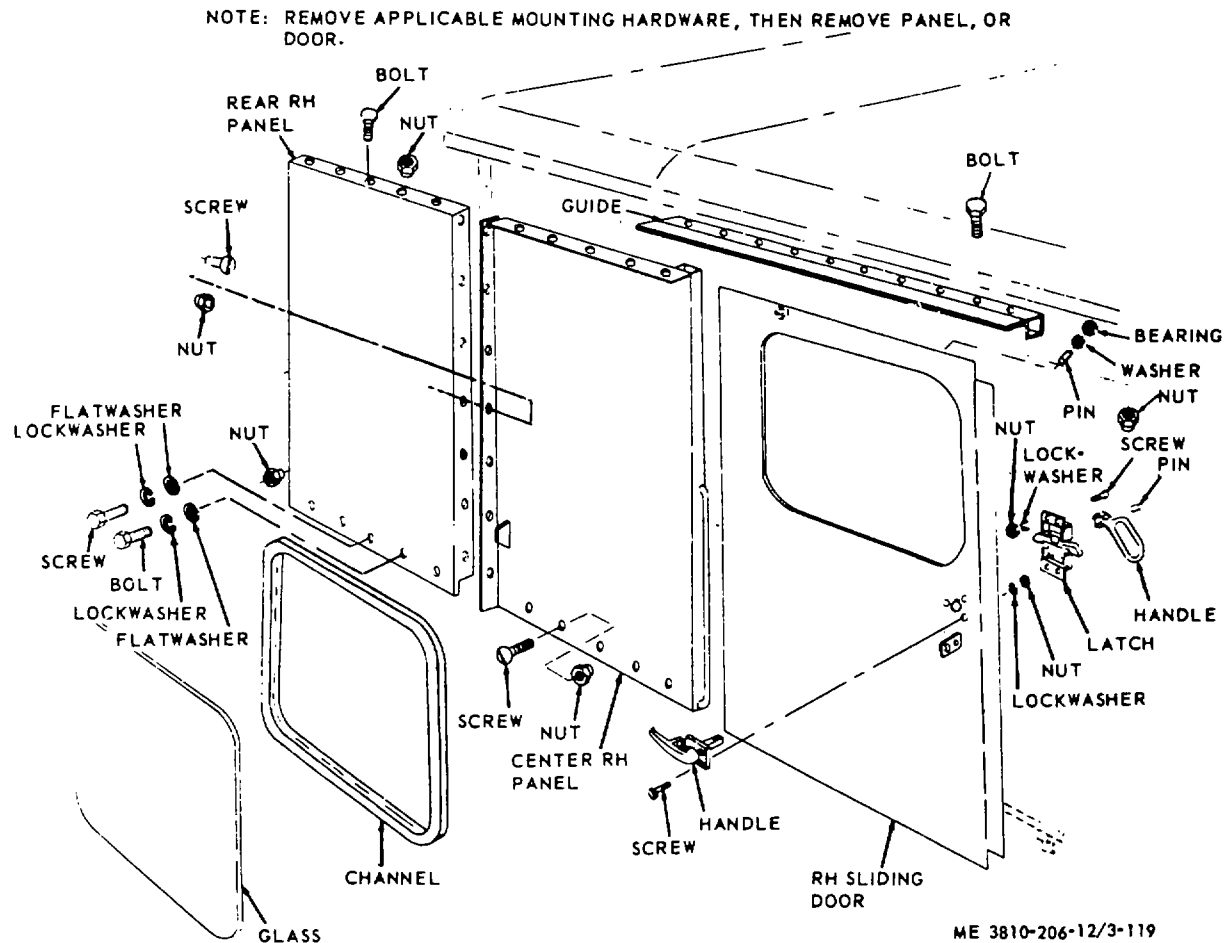

Figure 3-119. Panels and swinging door, removal and installation.
(1) Unhook latch.
(2) Refer to figure 3-119, remove nine nuts, washers and screws, then remove swinging door.
(3) Install in reverse order.
- (1) Refer to figure 3-119 and remove center panel from left hand side.
- (2) Install in reverse order.
(1) Refer to figure 3-119 and remove louver panel from left hand side of cab.
(2) Install in reverse order.